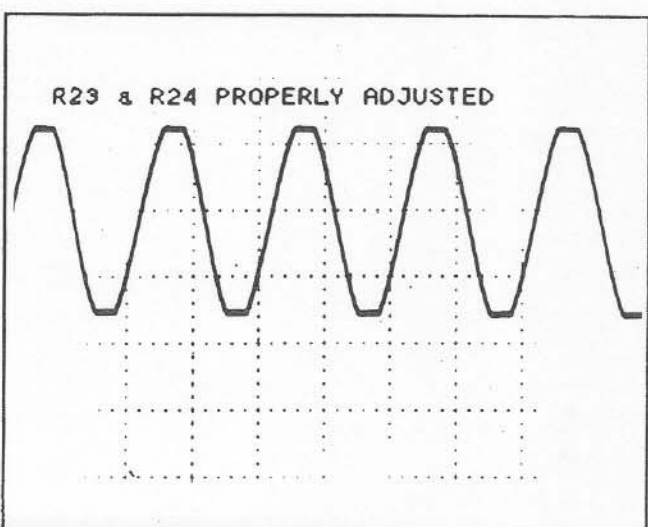

Figure 11 Properly Adjusted Pos and Neg Current Limit
Shown in Figure 11 is an asymmetrically clipped waveform caused by an improperly adjusted positive current limit as determined by R24. Had R23 been improperly adjusted, the negative half of the waveform would be clipped as well, but its degree of clipping is a function of R23 only and is independent of R24.
9. If R23 and R24 are properly adjusted, the channel should clip symmetrically (@ 1% THD) at approximately 1000 watts as shown in Figure 11.